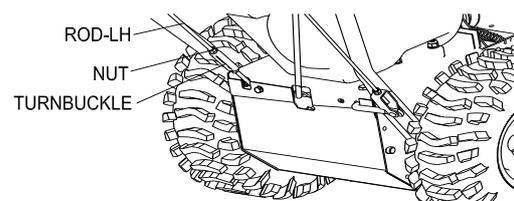

FIG 3
2.3.1 Begin by placing rod through the slot on the left side of the upper handle then thread the wheel drive rod into the turnbuckle assembly located on the left side of the engine deck. Thread rod into turnbuckle until the turnbuckle reaches the preset jamb nut. Ref to (FIG 3).
Ref to (FIG 3).